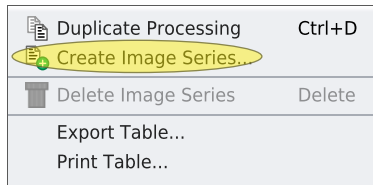

Figure 1.57: Context Menu Processing Platform
1. Open the context menu (see [Figure 1.57 \[p 75\]](#)) and invoke **Create Image Series...**